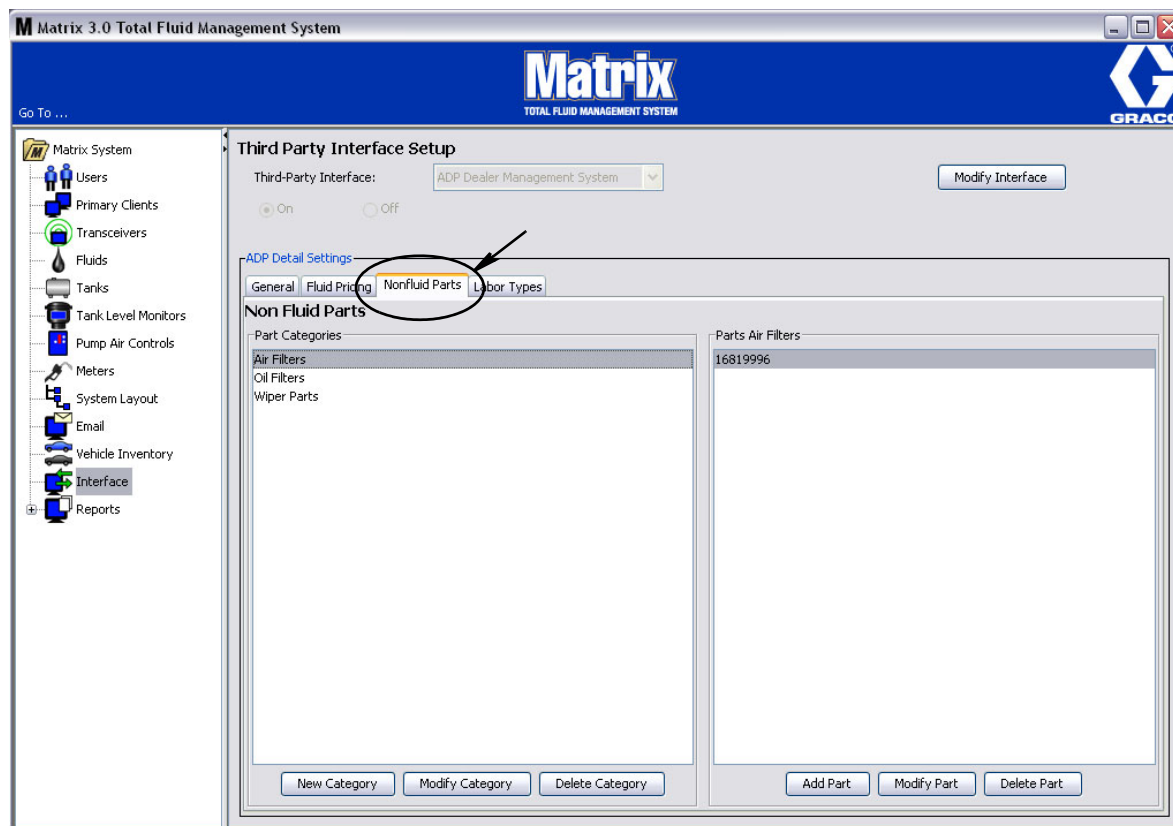

FIG. 194 ADP Non-Fluid Parts Tab
The **Non-Fluid Parts** portion of the Matrix ADP Interface Setup screen (FIG. 194) allows you to:
2. Click the **OK** button to add the new Part Category to the list displayed on the Part Categories column of the Non-Fluid Parts Screen (FIG. 194, page 150).
3. Click the **OK** button to confirm the changes you have made and revise the list displayed in the Part Categories column of the Non-Fluid Parts Screen (FIG. 194, page 150).